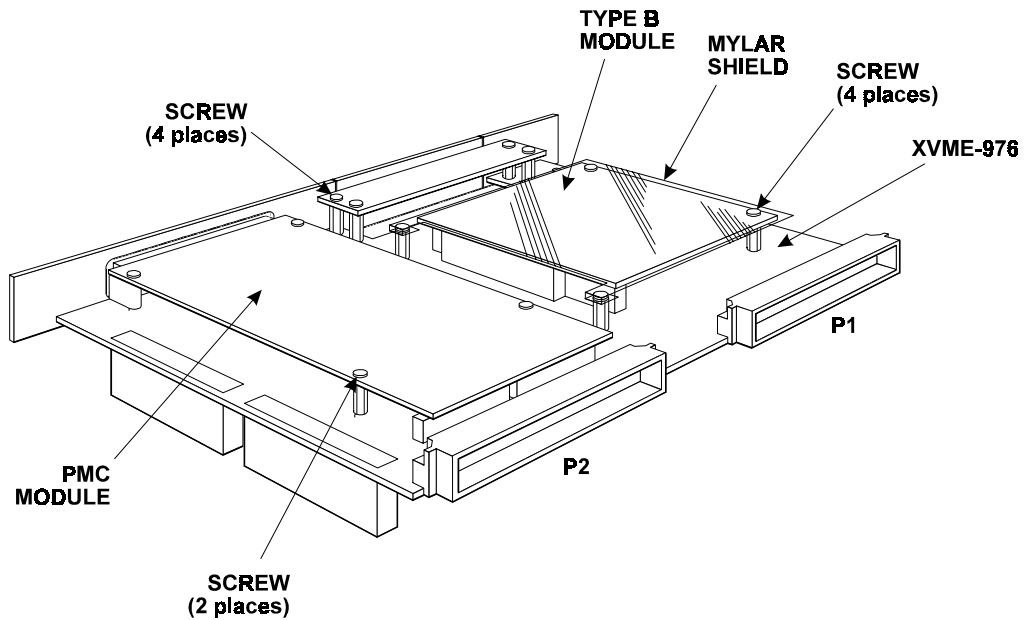

Figure 1-5. XVME-976 with PMC Expansion Module
5. Place the XVME-976 (and any attached boards) on a static-free surface with the XVME-976 on top. See Figure 1-5.
7. Align the PMC board with the 5-volt key. See Figure 1-5.